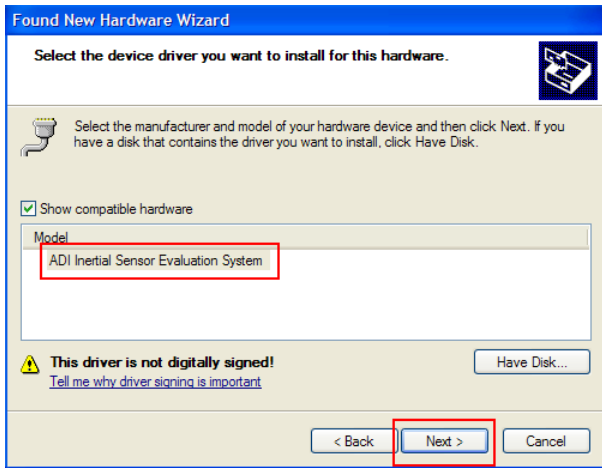

Figure 4. Selection of the ADI Inertial Sensor Evaluation System Drivers
4. Select **ADI Inertial Sensor Evaluation System** from the model list and click **Next** to complete the process (see Figure 4).